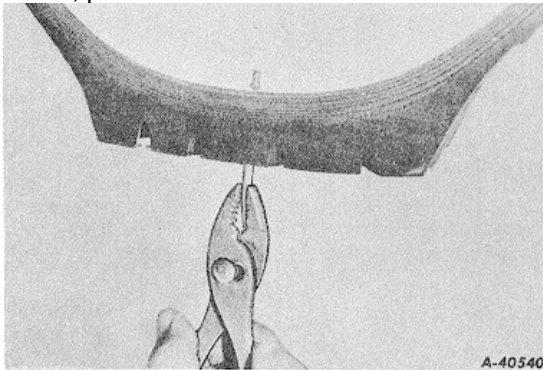

Fig. 16
3. Remove the detachable handle from the needle. Cut a 3.175 mm (1/8") strip of filler rubber and place it into the hole of the needle with the end of the rubber strip extending beyond the needle. Pull needle through the tire with a pliers (Fig. 16). Filler rubber will remain in puncture. Using an awl, pack excess rubber flush with inside of tire.